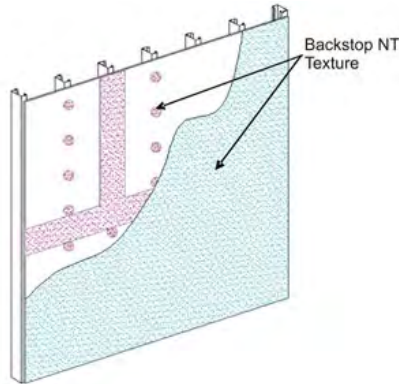

Figure 16
- 3) Use a coarse, open-cell foam roller cover with a 9.5 mm (3/8 in) foam nap (FoamPRO #58 roller). Apply a uniform, continuous film of Backstop NT – Texture over the entire surface of the sheathing, concrete or masonry, including the previously treated areas – Figure 16. **NOTE: If the roller pulls material back out of the sheathing joints, it indicates that the joint material is not sufficiently dry.**